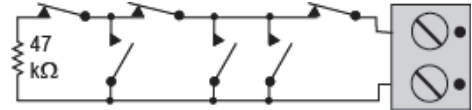

Figure 4. E.O.L. Wiring Example
## 2.2 Auxiliary Input Wiring (Fig. 4)
- D. For E.O.L. supervision: Normally Closed (N.C.) sensor contacts can be used, as shown in Figure 4. A 47kΩ E.O.L. resistor must be wired at the far end of the zone loop.